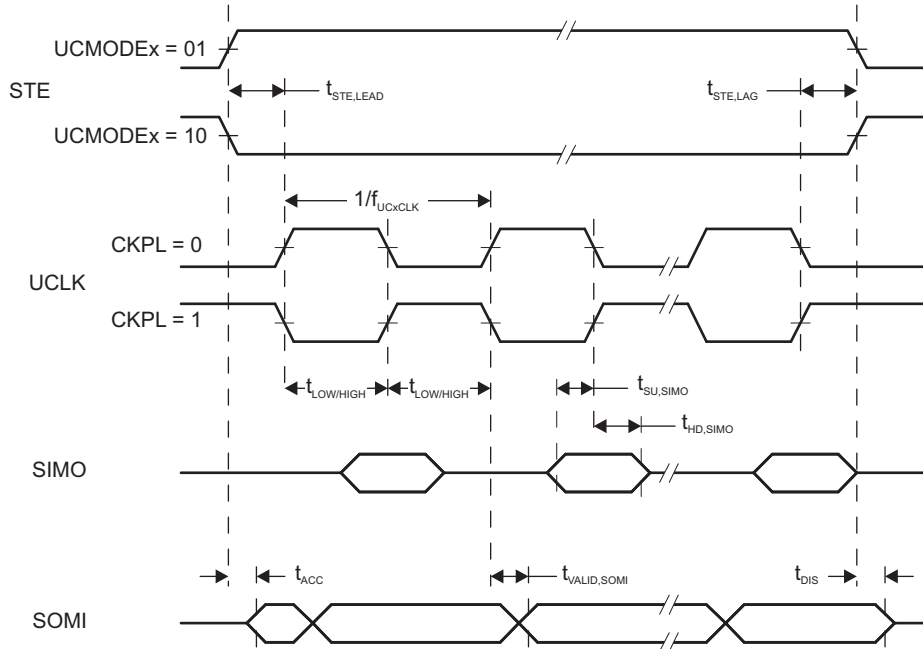
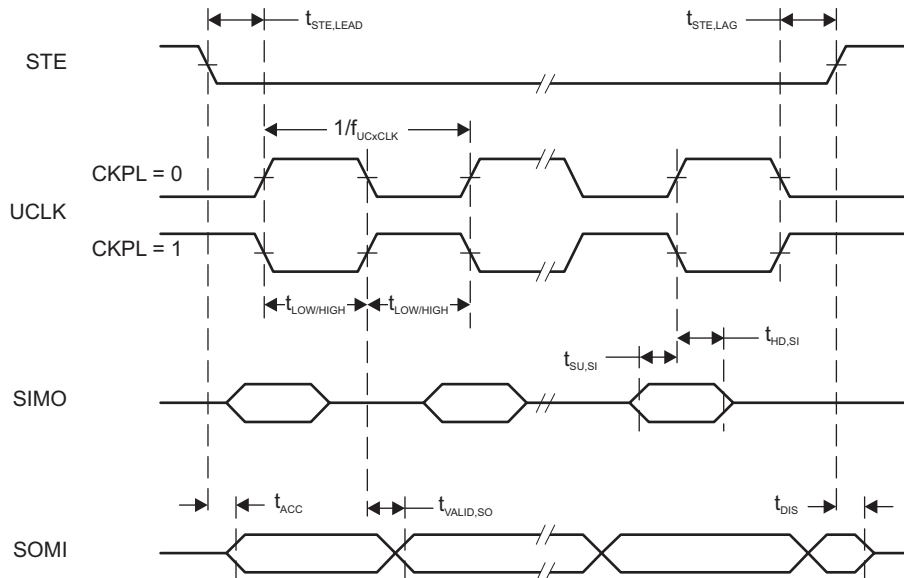

Figure 5-13. SPI Slave Mode, CKPH = 0
Figure 5-14. SPI Slave Mode, CKPH = 1
- (2) Specifies the time to drive the next valid data to the SOMI output after the output changing UCLK clock edge. See the timing diagrams in Figure 5-13 and Figure 5-14.
- (3) Specifies how long data on the SOMI output is valid after the output changing UCLK clock edge. See the timing diagrams in Figure 5-13 and Figure 5-14.